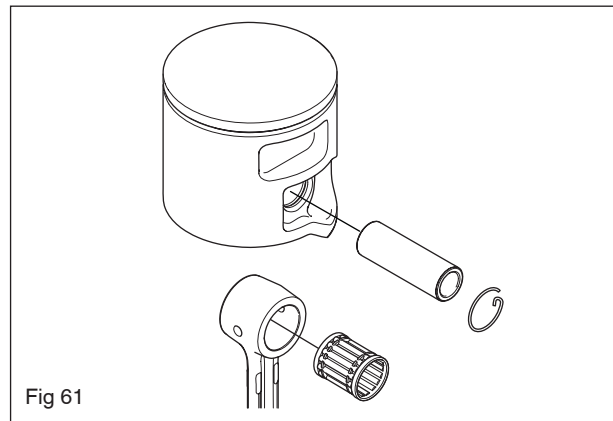

Fig 61
4. Remove the circlips for the gudgeon pin and press out the gudgeon pin. The lift off the piston. See figure 61.
5. Remove the gudgeon pin bearing (the needle bearing) using a pliers. See figure 61. Replace with a new bearing.